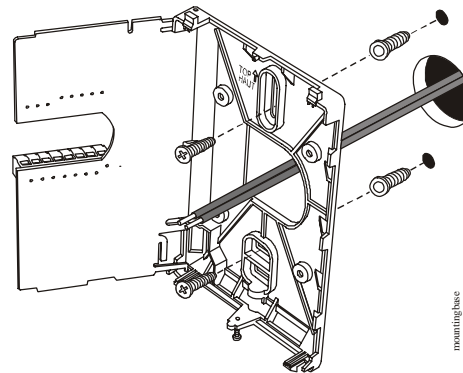

Figure 3: Securing the Thermostat Mounting Base to the Wall
7. Position the thermostat mounting base on the wall and use the two mounting screws (included with the thermostat) to secure the base to the surface as illustrated in Figure 3.